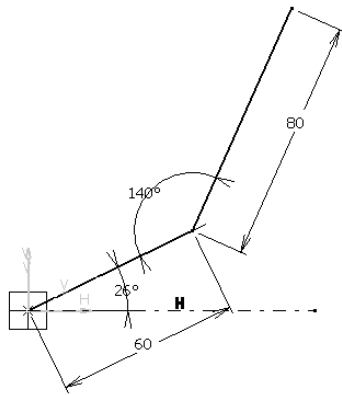

Figure 6-75 Reference sketch
- Start a new file in the **Part** workbench and create the base feature of the model by extruding the sketch along the selected direction, refer to Figures 6-75 through 6-79.
2. Draw the sketch, as shown in Figure 6-75, and then exit the **Sketcher** workbench.